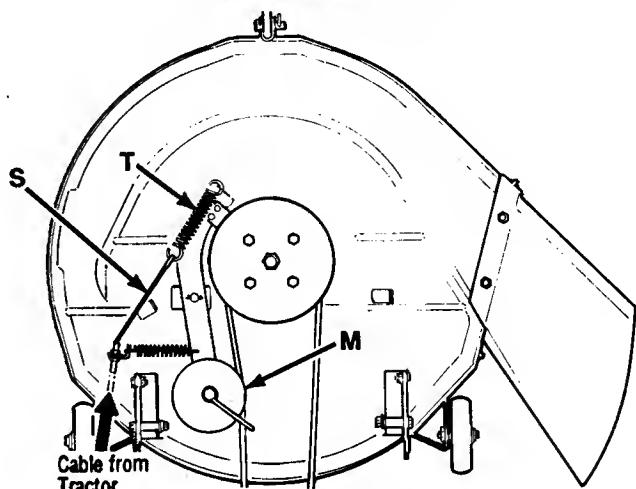
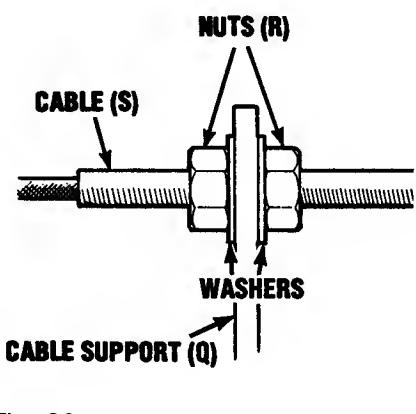

Fig. 18
Fig. 20
With mower lift lever (See page 18, Item I) in the disengaged position, adjust cable (S, Figs. 18, 20, & 21) at nuts (R, Fig. 20) until all slack in cable has been taken up. **WHEN ADJUSTED, SPRING (T)** SHOULD NOT BE UNDER TENSION.